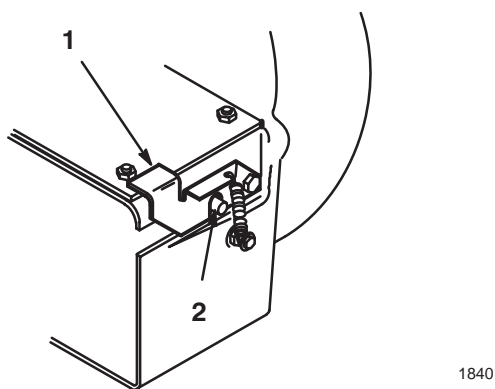

Figure 16
6. With the belt installed, swing the blower toward the mower until the blower latch locks over the pin at the back of the mower (Fig. 16).